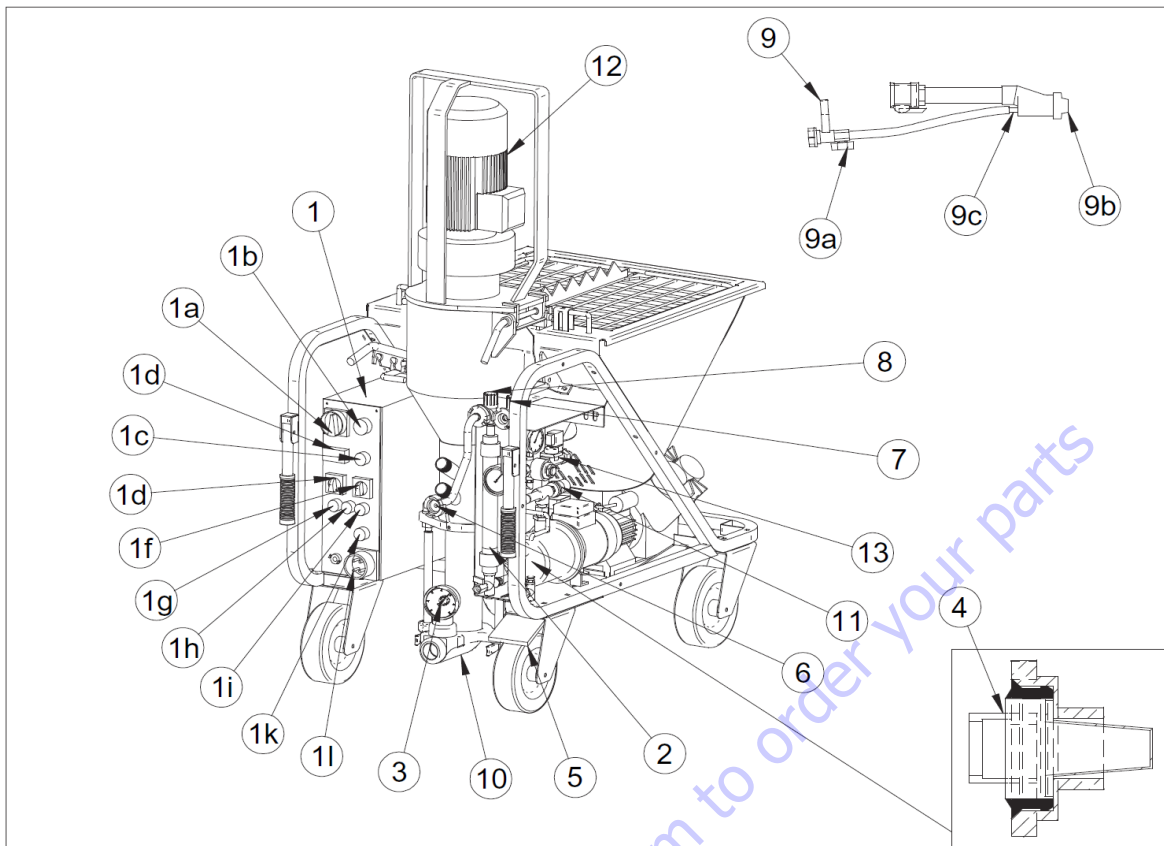

FIG.10
Close the air valve (ref.9a) supplying the spray jet (fig.10). Open the micrometric valve (ref.8) virtually fully. Turn the main switch/inverter (ref.1a) to position 1 or 2: in the correct position the blue "phase correct" lamp illuminates (ref.1g). Check that the water pressure gauge (ref.11) indicates a minimum pressure of 3.5 bar and that the green "no water pressure" lamp (ref.1i) is off. Otherwise, activate the pump by means of the water pump switch (ref.1f). Press the water supplement pushbutton (ref.1d) for 3-4 seconds. Start the pump by means of the start pushbutton (ref.1c): the lamp on the start/stop pushbutton illuminates and the mortar pump starts up for a few seconds. Open the spray jet air valve: the machine starts up. Check that the